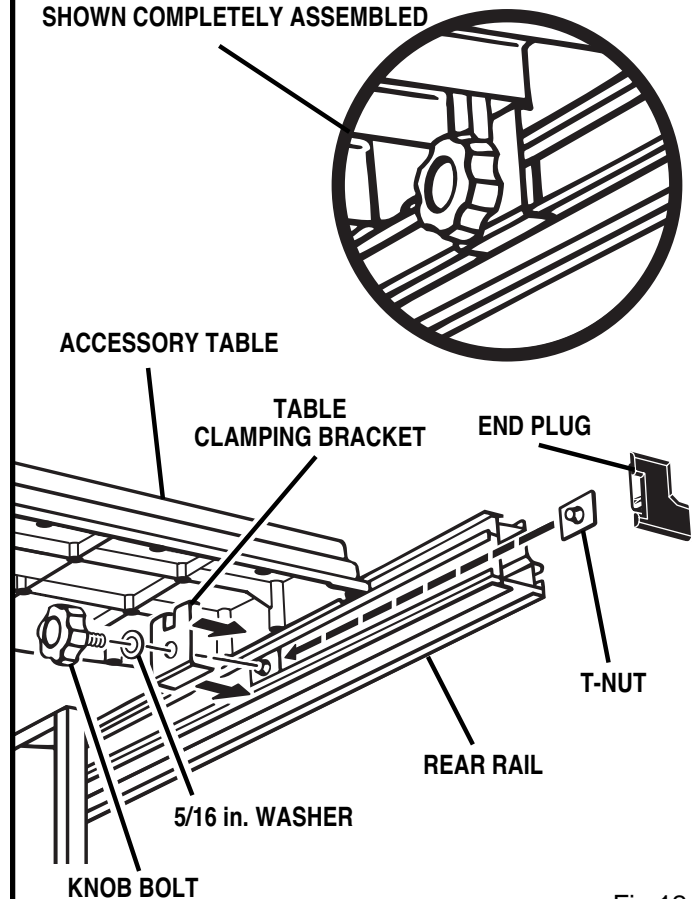

Fig.12
- Remove end plug from rear rail as shown in Figure 12.